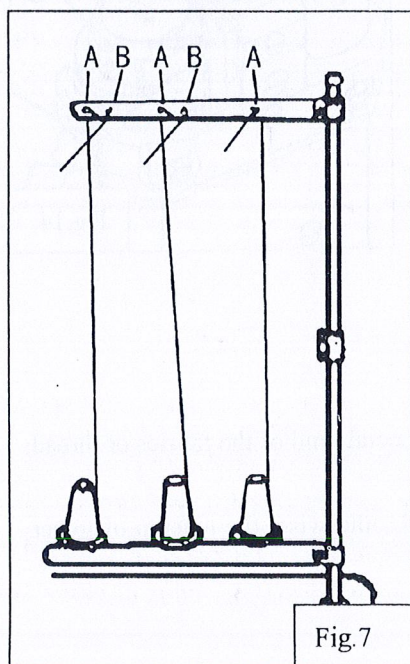

Fig.7
4. How to route the upper thread (Fig.7, Fig.8):
Note: when thin slippery thread (polyester thread for example) is used pass the thread through thread guide B as show in Fig.7